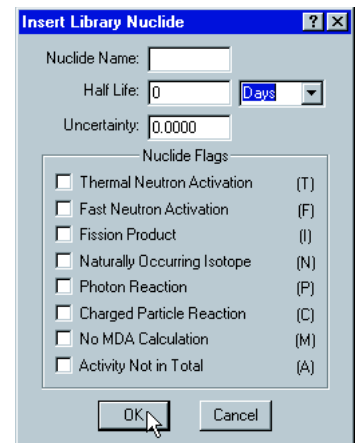

Fig. 17
1.16 To add a nuclide to the list, click **Insert**. Input the **Nuclide Name**, **Half Life**, and **Uncertainty** information (from the standard certificate) and click **OK** (Fig. 17). The check boxes in this window are designed to flag nuclides of your choice for reporting purposes. We'll skip this for now.